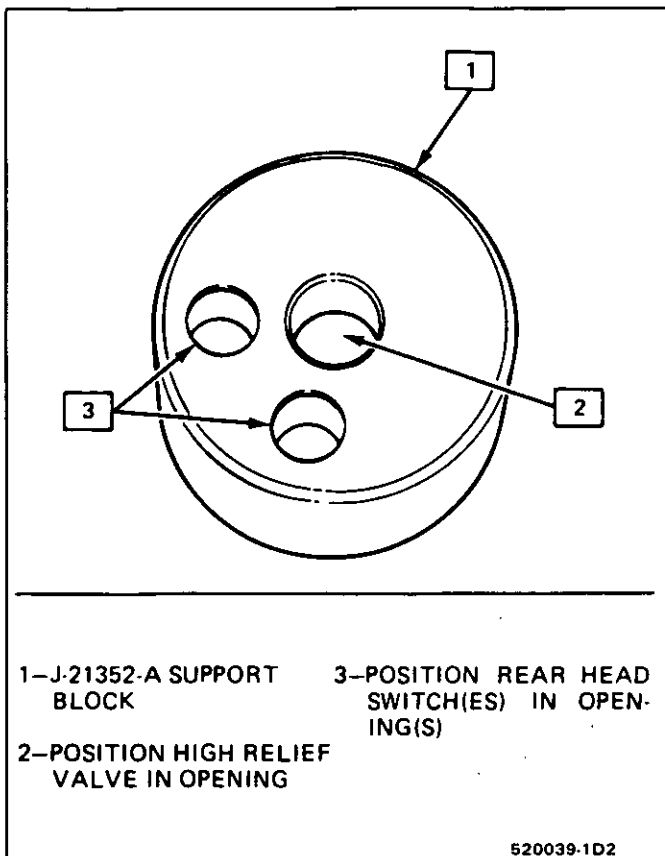

Fig. 38 Support Block For the DA-6 Compressor
1. Rest the rear head and cylinder assembly on the J-21352 support block (Fig. 38), and install the two (2) J-33016 assembly guide pins in the through bolt holes indicated (Fig. 39).
1. Place the J-21352-A support block (Fig. 38) on the workbench or suitable flat work surface. Position support block as shown to properly position the rear head for specific detail assembly of the compressor.